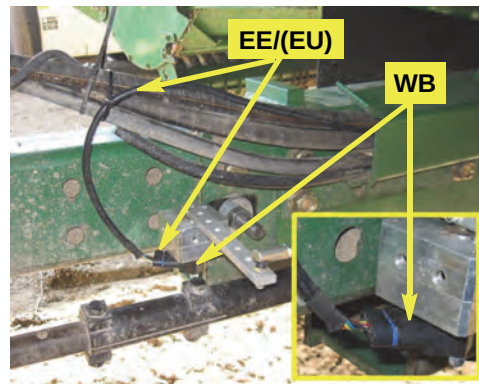

Figure 3f: WAS cable connection - flowmeter machines
- f. **Connecting the WAS cable(s) EU/EE - flowmeter machines:** Connect WAS extension cable **EU** to WAS cable **EE** and route the cable(s) back along the machine to the right side of the rear axle. Connect **EE** to wire connector **WB** (Figure 3f).